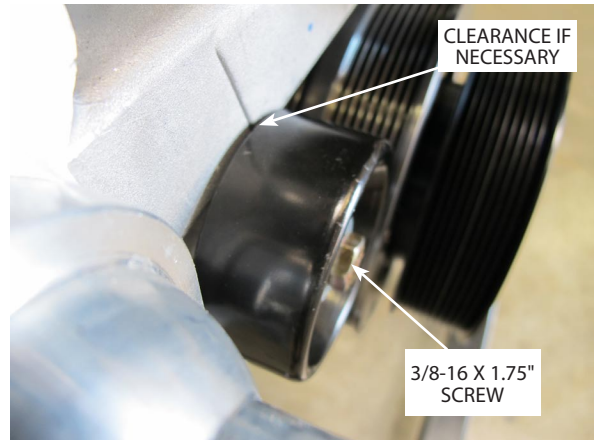

Fig 4-d
- E. Using an M10 X 35MM screw, M10 washer & M10 nylock nut on the rear A/C mounting point & an M8 X 25MM & 5/16 AN washer on the front A/C mounting point, loosely install the right side of the A/C pump to both A/C brackets as shown. (See Fig. 4-f)